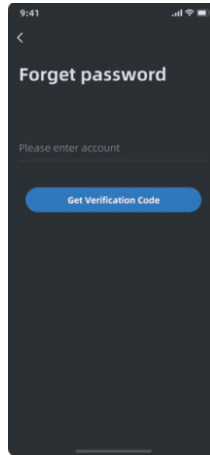

Figure 1
- 1)Figure 1: If you forget your password, you can reset it "Forgot Password". Click "**Forgot Password**" on the login page, enter your registered account and click "**Get Verification Code**" to enter the verification code page.